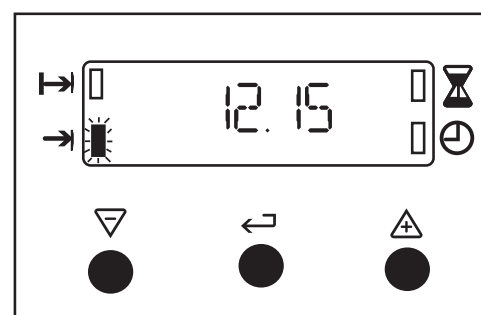

Fig.13.
- i) To stop the sound press any of the three buttons, as Fig. 13.